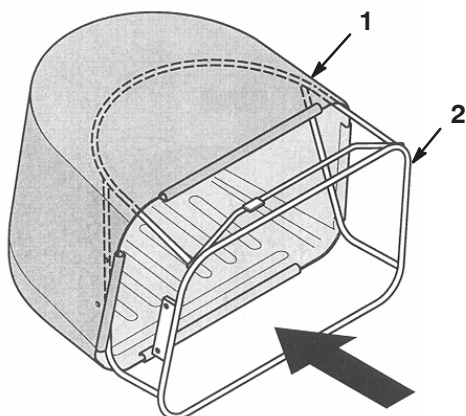

Figure 5
1. Slide the bag onto the frame and secure it with the clips (Fig. 5).